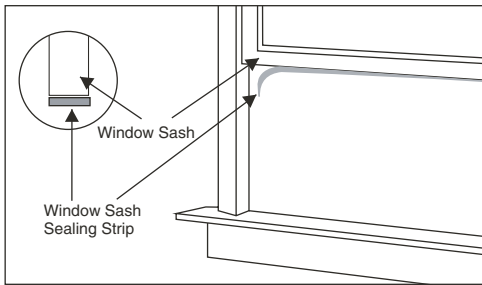

Fig. 14 – Seal Strip Adhesion
- D. Cut the seal strip to fit the underside of the bottom window sash. Remove the peel-off backing on the seal and attach it to this sash. See (Fig. 14).